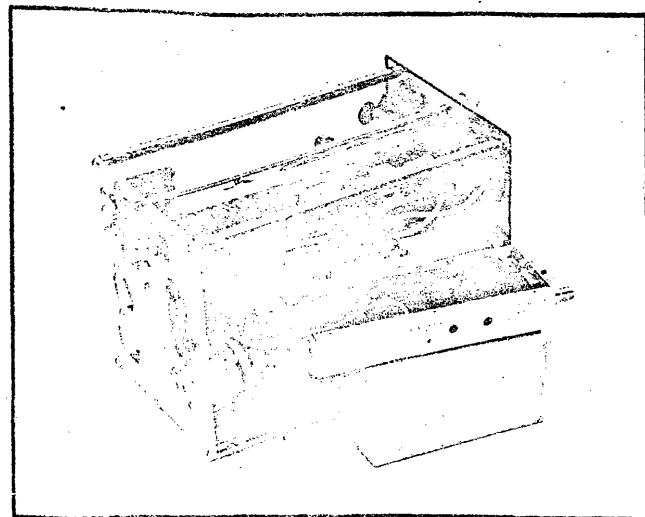

Fig. 4-10. Phase lock assembly removed and ready to troubleshoot.
7. Support the phase-lock assembly on a small block (see Fig. 4-10), then connect the signal lead from the oscillator to